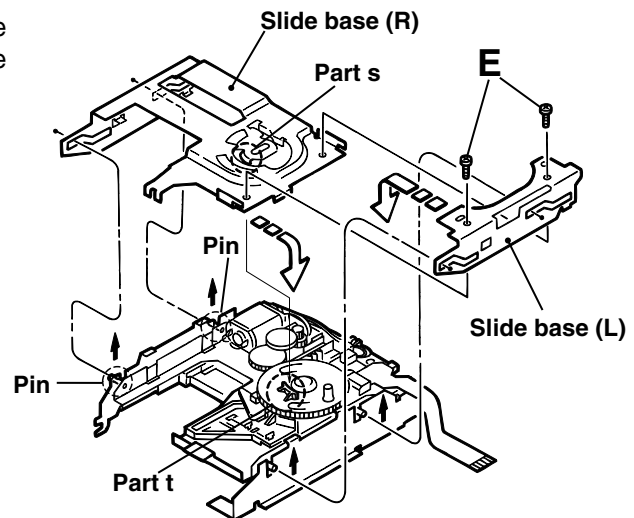

Fig.25
9. Reattach the slide base (R) while fitting the two pins on another side of the UD base to the slots of the slide base (R). (Fig.25)